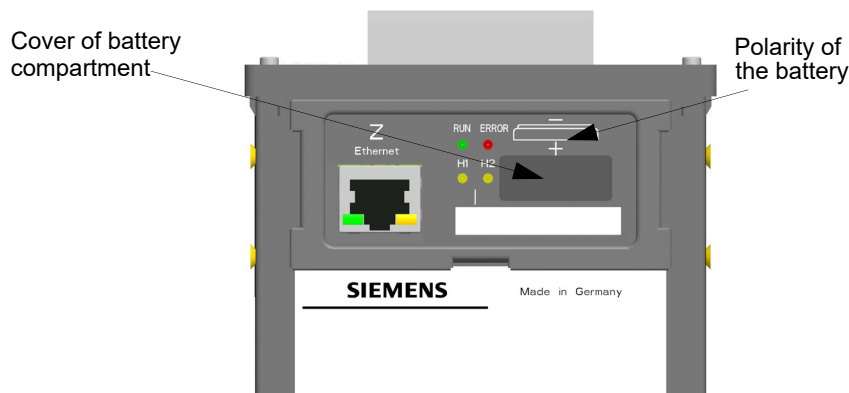

Fig. 5-1 Top side of the Digital Transducer
- ◇ Insert the battery into the battery compartment with the polarity imprinted on the top side of the device (see Figure 5-1).